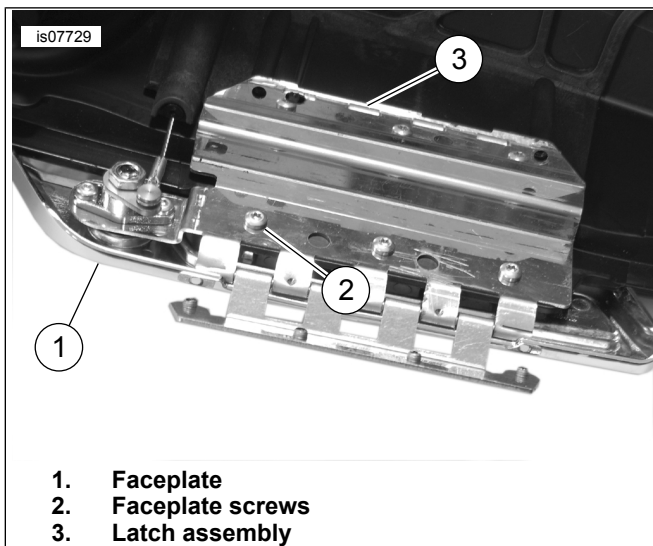

Figure 6. Faceplate and Latch Assembly
- See Figure 6. Hold faceplate (1) in place and install three screws (2). Tighten.